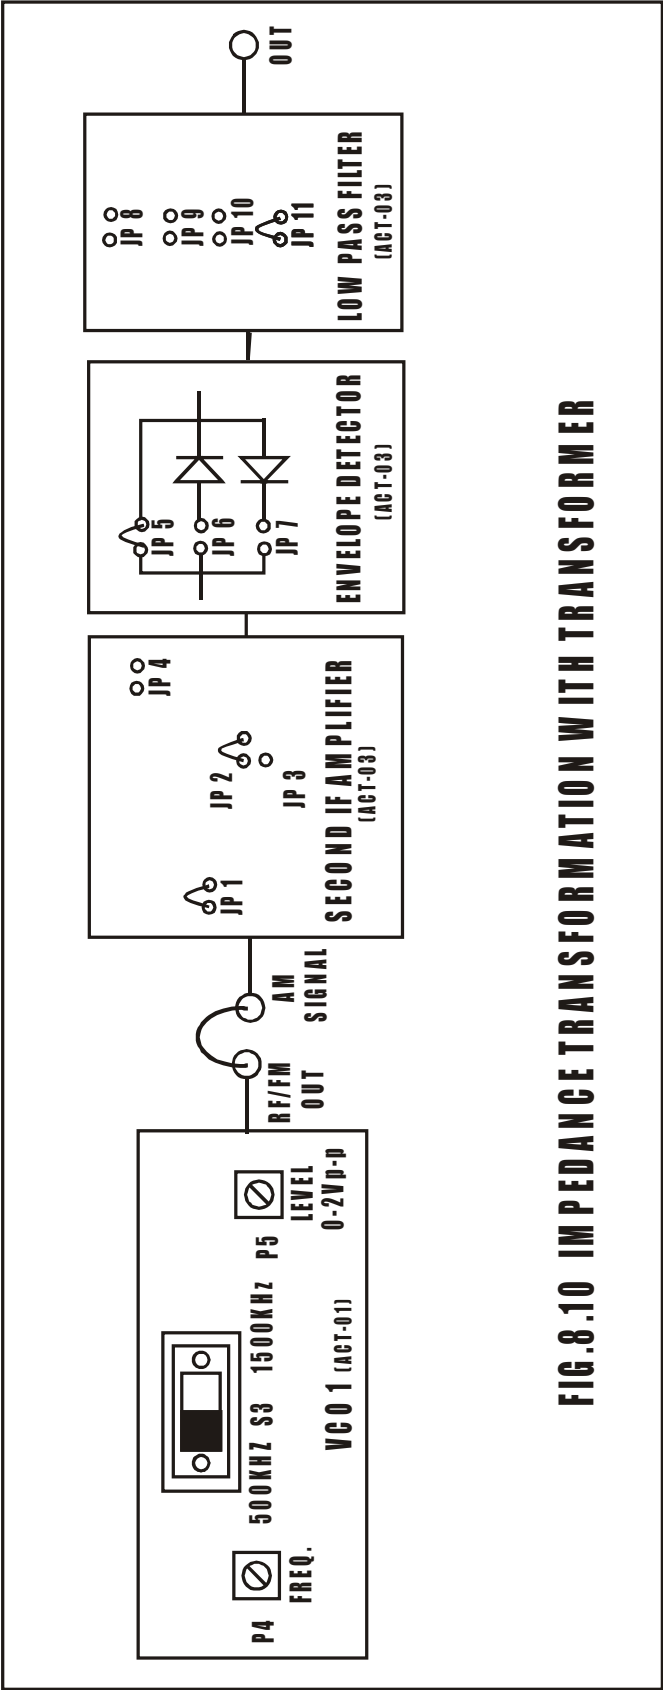

FIG.8.10 IMPEDANCE TRANSFORMATION WITH TRANSFORMER
- Set the second stage IF as in fig. 8.10 (short only the jumpers: JP1, JP2, JP5, & JP11 and keep jumpers JP3, JP4, JP6, JP7, JP8, JP9 & JP10 open).